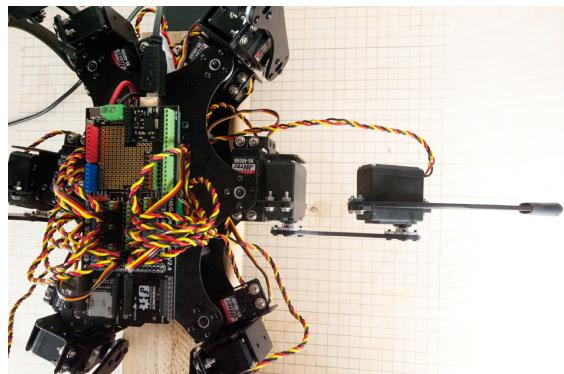

Figure 5-10 Trimmed coxa
1. Looking down at the robot from above (Figure 5-10), the coxa and femur should be at a right angle to the robot (parallel to the x axis on the coordinate grid). If you are using the test stand with a coordinate grid drawn upon it, this should be pretty easy to see. If the L2C servo needs to rotate clockwise, you will increase the angle from 90. To rotate counterclockwise, decrease the angle. Try incrementing a few degrees at a time and narrow your value down to the best fit. Don't bother with fractions of a degree, Johnny-Five only sends integer values to the servos: